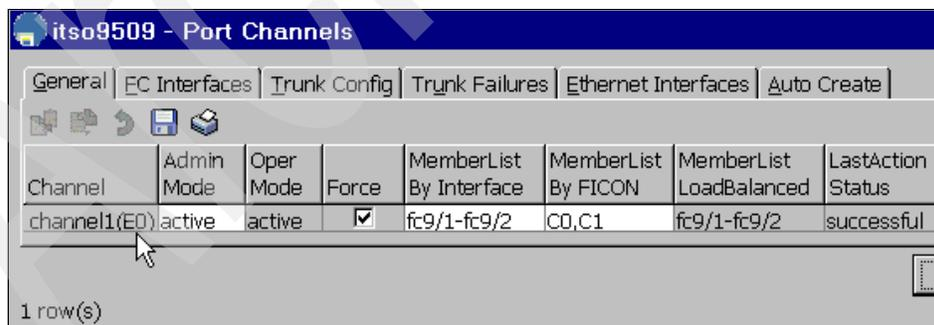

Figure 43 9509 verification
9. We did the same on the 9509 as shown in Figure 43.